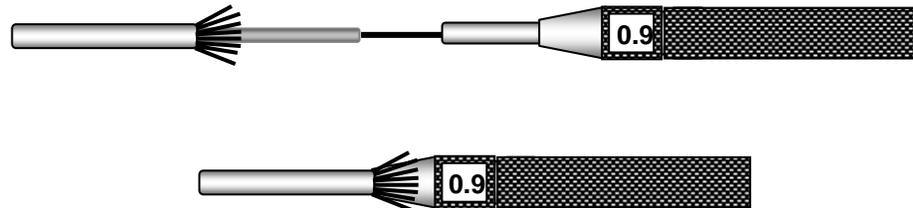

Figure 7-32 – Installing the Shaping Tool under the Outer Jacket
Step 14 - Insert the adapter tool over the optical glass and push up until the adapter goes up under the outer jacket and stretches the outer jacket. See Figure 7-32.